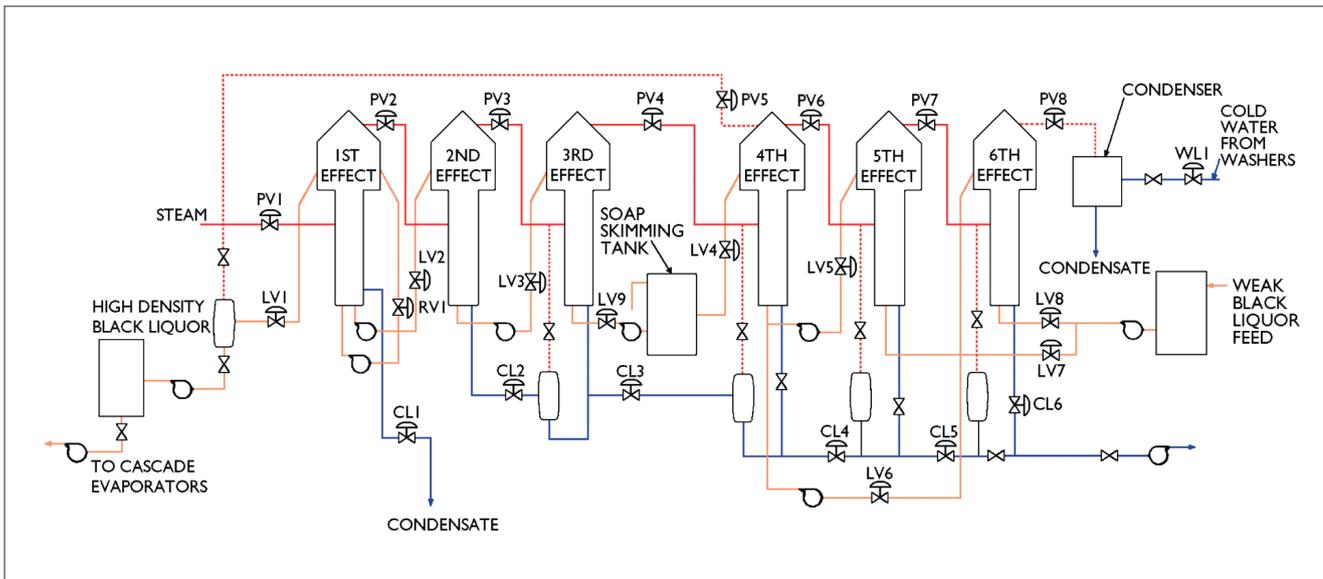

Fig. 1. Flow diagram of a multiple evaporator plant.
A flow diagram of six-stage evaporation plant is shown in the Figure 1. As the evaporation process moves from effect 6 toward effect 1, the solids content increases. Between effect 3 and effect 2 the solids content is above 50 %.
* Tag numbers refer to the Figure 1.